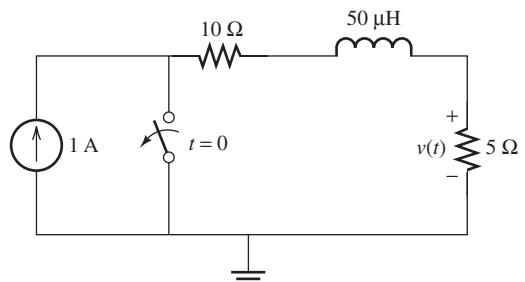

FIGURE P5.24 Circuit for Problem 5.24.
- 5.24** (B) Consider the circuit shown in Figure P5.24. The switch is opened at $t = 0$; find $v(0^+)$ and $v(\infty)$.